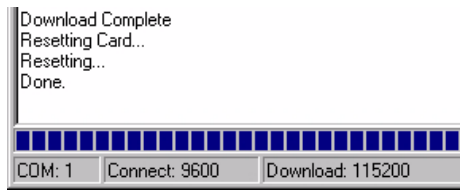

Figure 16: Upgrade Process Complete
7. The receiver should finish downloading and reset. The process is complete when “Done.” is displayed in the main display area, see *Figure 16*.